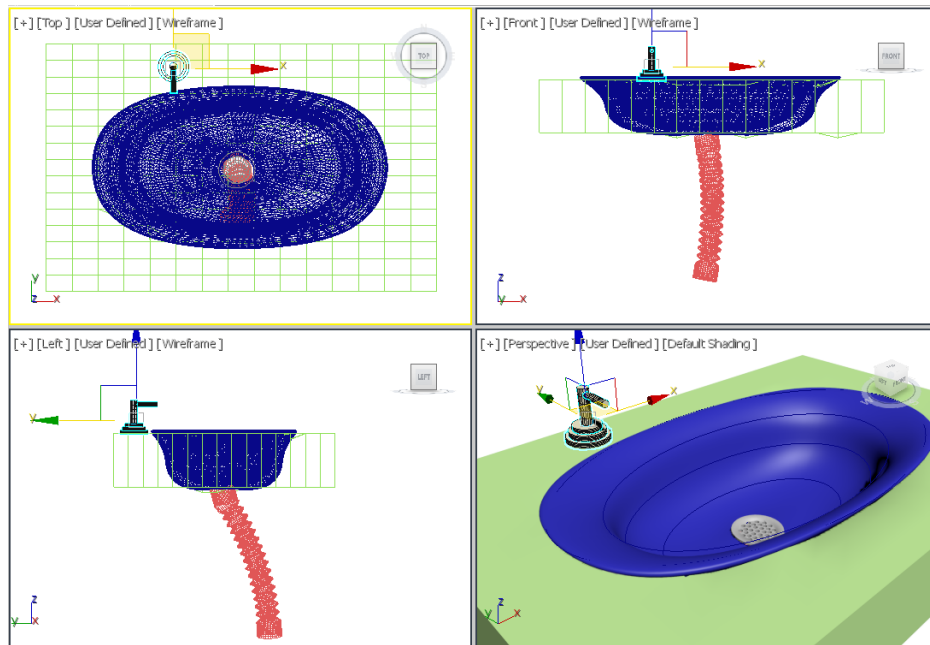

Figure 15-76 The *tap01* geometry created and aligned in viewports
- Align the cylinders using the **Select and Move** and **Select and Rotate** tools, as shown in Figure 15-76. Also, group all of them and name the group as *tap01*.